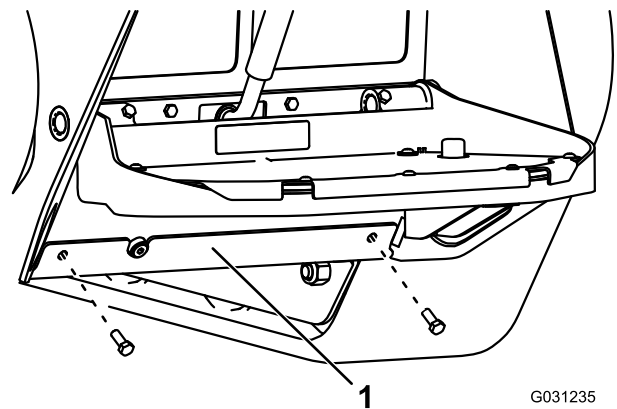

Figure 75
4. Remove the 2 bolts securing the bottom plate and remove the bottom plate (Figure 75).
8. Install the bottom plate (Figure 75).